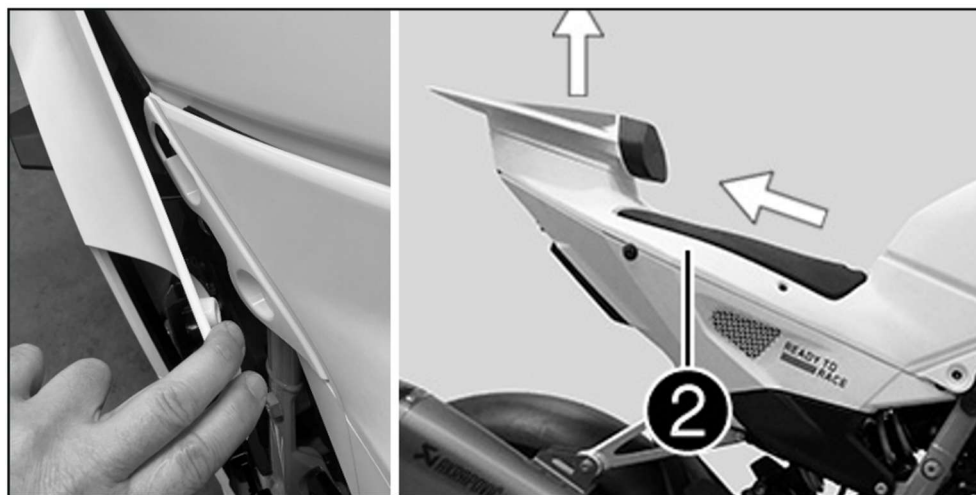

Fig. 2 – Remove the 990 RC R Track seat fairing
- Carefully push the side spoiler to the side, lift and remove the seat fairing at the rear (see Fig. 2). Remove the battery.